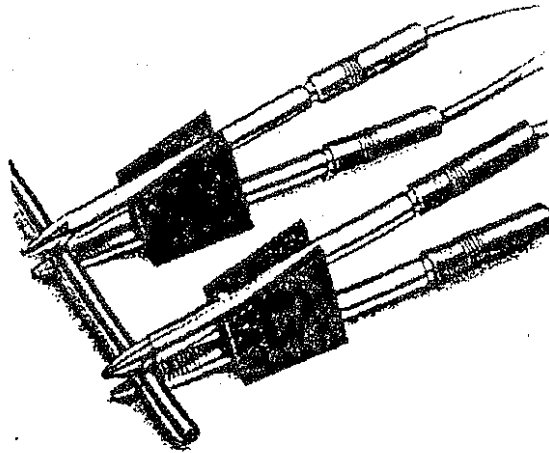

Fig. 9.1 Combined current and potential probes
- b) Clip on to the resistor under test (fig. 9-1). Cleanliness is important and if the sample is not clean, a rub with an abrasive paper to remove oxides is recommended.